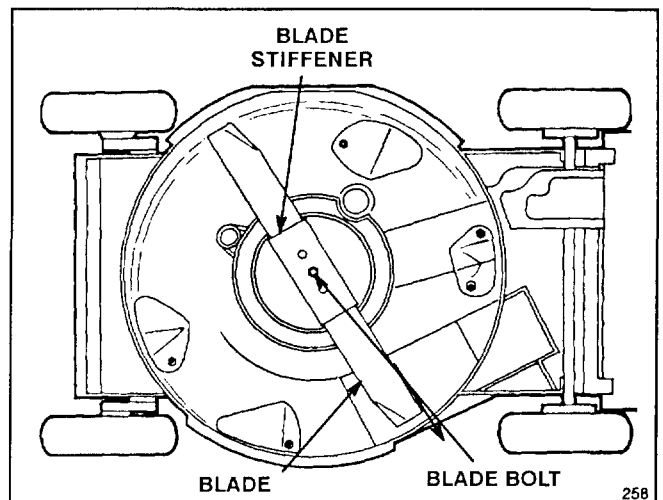

Figure 13
3. Tip mower on its right side (Fig. 13). Avoid rotating blade as starting problems may result.
5. **REMOVING BLADE** – Grasp end of blade using a rag or thickly padded glove. Remove blade bolt, blade stiffener, and blade (Fig. 13).